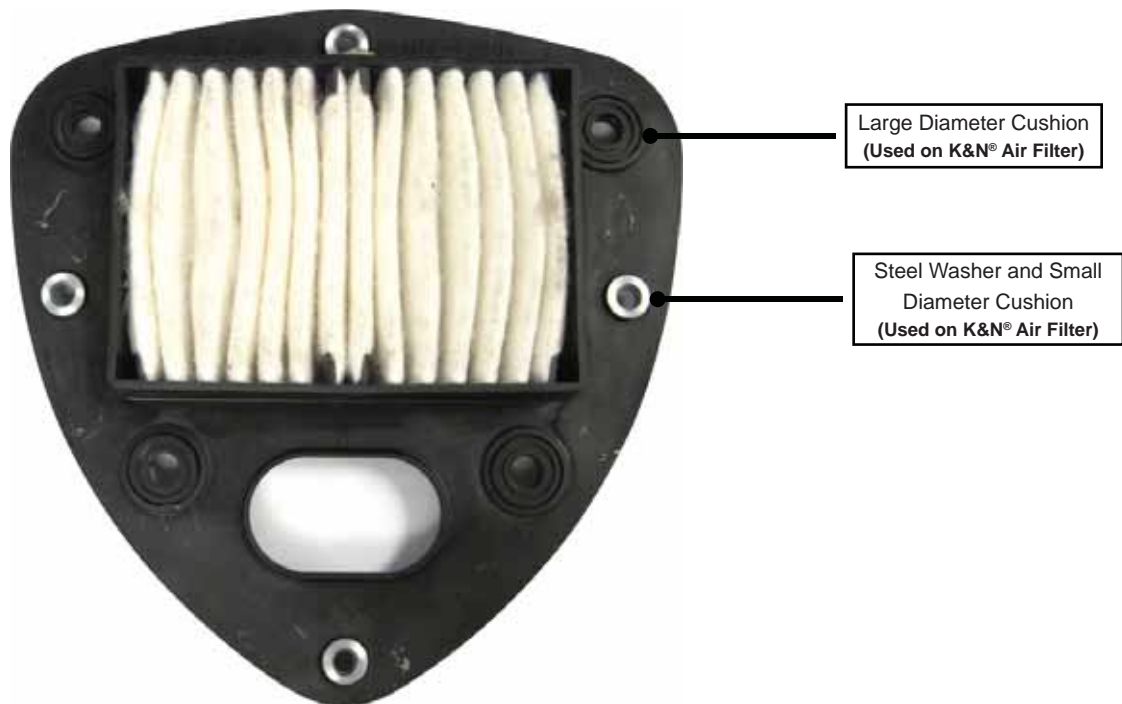

Fig. 1
NOTE: Some components from the OE filter will be used on the K&N® air filter. (Fig.1)
2. From the OE filter, remove all 4 large diameter cushions, 4 small diameter cushions and 4 steel washers and the gasket from the back of the filter. These will be placed onto the K&N® filter. (Fig.1)